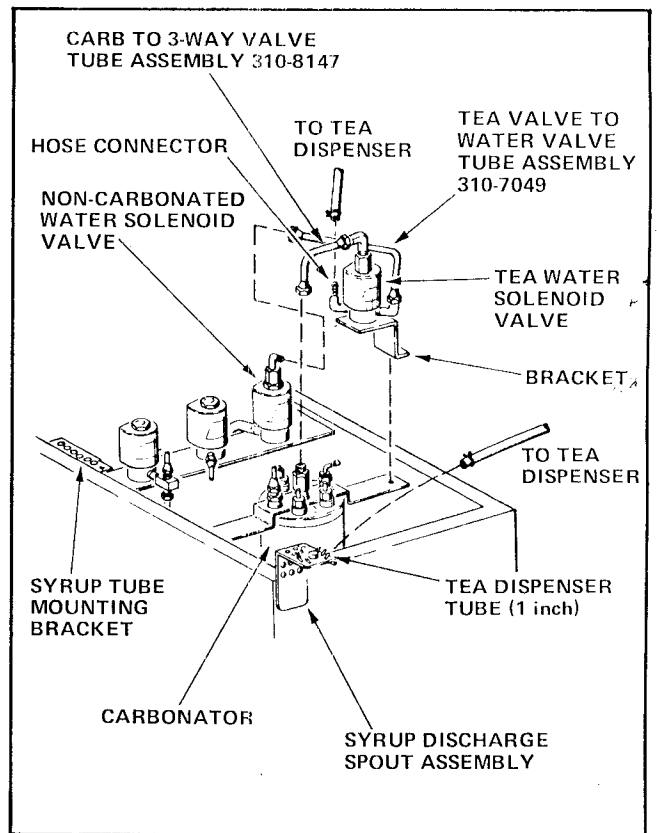

FIGURE 5
Steps 18 thru 20 apply to a Merchandiser that either vends Tea, or has a Vent Valve installed on the Water Bath Assembly. See Figure 5 thru 7.
- a. Unclamp and remove from the Syrup Discharge Spout Assembly the Tube that leads to the Tea Dispenser. See Figure 5.
- b. Unclamp and remove from the Tea Water Solenoid Valve the tube that leads to the Tea Dispenser. Tag the tube, "Tea Water Solenoid". See Figure 5.
- c. Disconnect at the Carbonator and the Non-Carbonated Water Solenoid Valve the Tubes that lead to the Tea Water Solenoid Valve. See Figure 5.
- d. Remove the Tea Water Solenoid Valve and Bracket from the Water Bath by loosening the Screw in the keyhole-shaped mounting hole at the base of the Bracket. See Figure 5.
- e. Disconnect the Tube going from the Tea Water Solenoid Valve to the Non Carbonated Water Solenoid Valve and replace with the Tea Valve to Water Valve Tube Assembly, Part Number 310-7049, included in the Kit. See Figure 5.
- f. Disconnect the Tube going from the Tea Water Solenoid Valve to the Carbonator and replace with the Carb to 3 Way Valve Tube Assembly, Part Number 310-8147, included in the Kit. See Figure 5.
Steps 5 thru 7 apply to a Merchandiser that vends Tea or requires a Vent Valve. See Figure 5 thru 7.
- a. Attach the Tea Water Solenoid Valve and Bracket, that was removed in Step 18 of Part A, to the Pan Head Slotted Screw located at the right end of the Carbonator Mounting Bracket. Do not remove the Screw. See Figure 5.
- b. Clamp the Tube tagged "Tea Water Solenoid" in Step 18b of Part A to the Hose Connector fitting on the Tea Water Solenoid. See Figure 5.
- c. Clamp the Tube, leading from the Tea Dispenser, to the Tea Dispensing Tube on the Syrup Discharge Spout Assembly. See Figure 5.
- d. Connect the Tubes leading from the Tea Water Solenoid Valve to the Carbonator and Non-Carbonated Water Solenoid Valve. Tighten the flare nuts. See Figure 5.